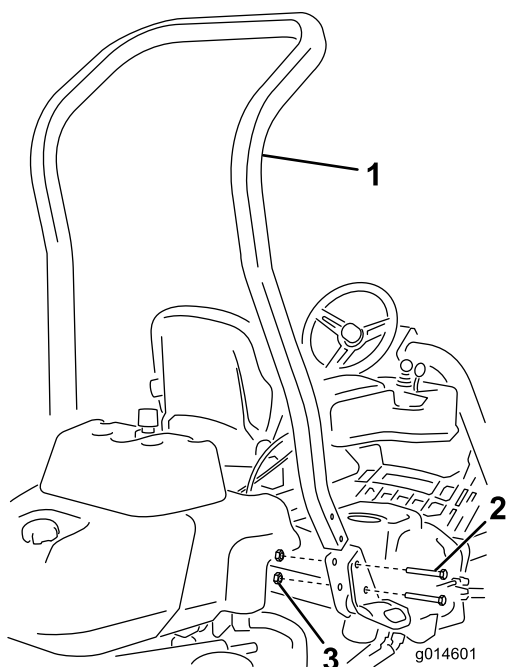

Figure 3
3. Install the roll bar into the pockets on each side of the machine, using 4 bolts (1/2 x 3-3/4 inches) and 4 flange nuts (1/2 inch) as shown in Figure 3.